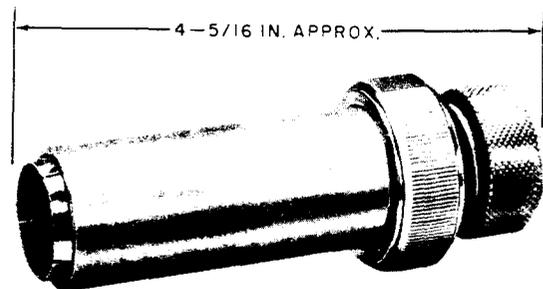

Fig. 6—KS-14408 Tube Extractor
2.07 **KS-14408:** The KS-14408 tube extractor (Fig. 6) is used to extract and insert 416A electron tubes.